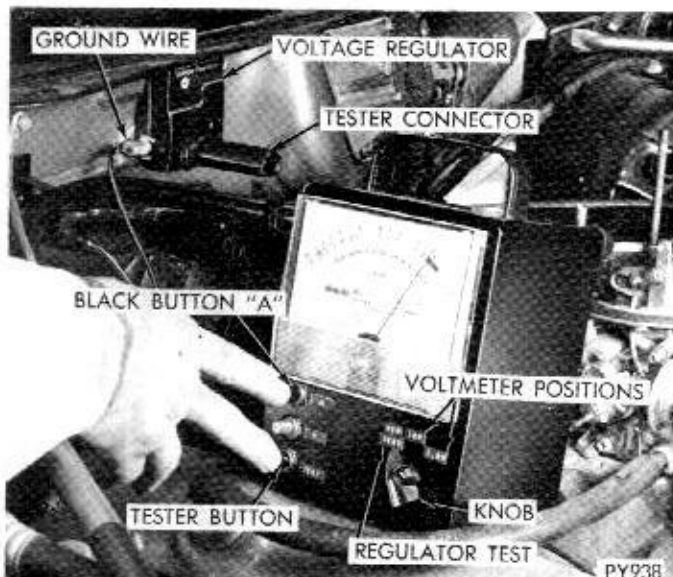

Fig. 6—Voltage Regulator Test (Depressing Test Button and Black Button "A")
(1) Remove connector from Electronic Voltage Regulator on vehicle.
(2) Plug in power cord of Voltage Regulator Tester to 110 Volt A.C. 60 cycle source.
(3) Connect the ground wire from the voltage regulator tester to a good body ground near the voltage regulator (at voltage regulator mounting screw Figs. 6 and 7).
(4) Plug connector of voltage regulator tester on voltage regulator on vehicle.
(5) Place knob on the tester to the regulator test position.
(6) Press the test button on the voltage regulator tester. The voltage reading should be in accordance with the following:
(7) While holding the test button in, depress **Black Button (A)** (Fig. 6), the meter reading should remain within the limits of step 6.